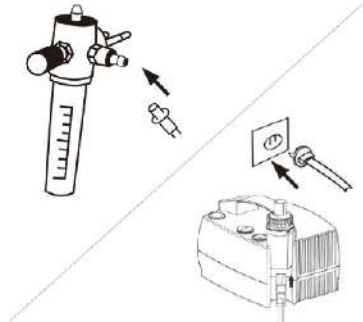

Figure 4
Install intact valve (1) and a nozzle (5) (see Figure 4).